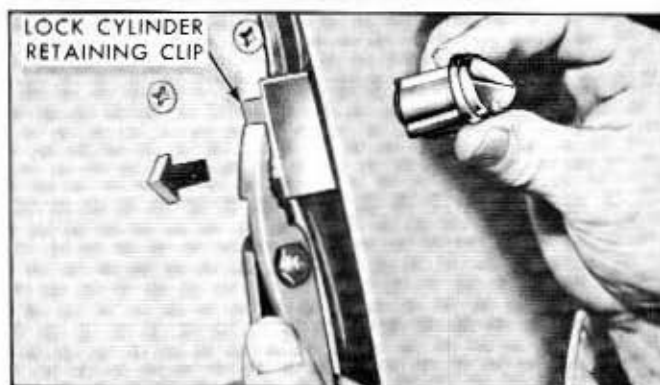

Fig. 13B-5—Door Lock Cylinder Removal—(60C-8031)
2. Remove the handle retaining screws, and remove the handle. See figure 13B-3.